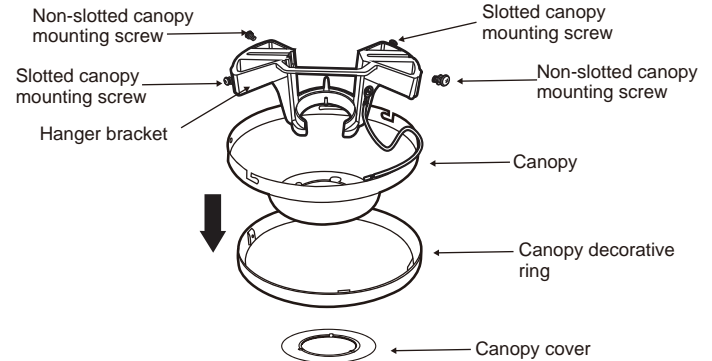

Fig. 7
(Fig. 7)
Step2. Remove canopy cover from the canopy by turning the cover counter clockwise. (Fig. 7)